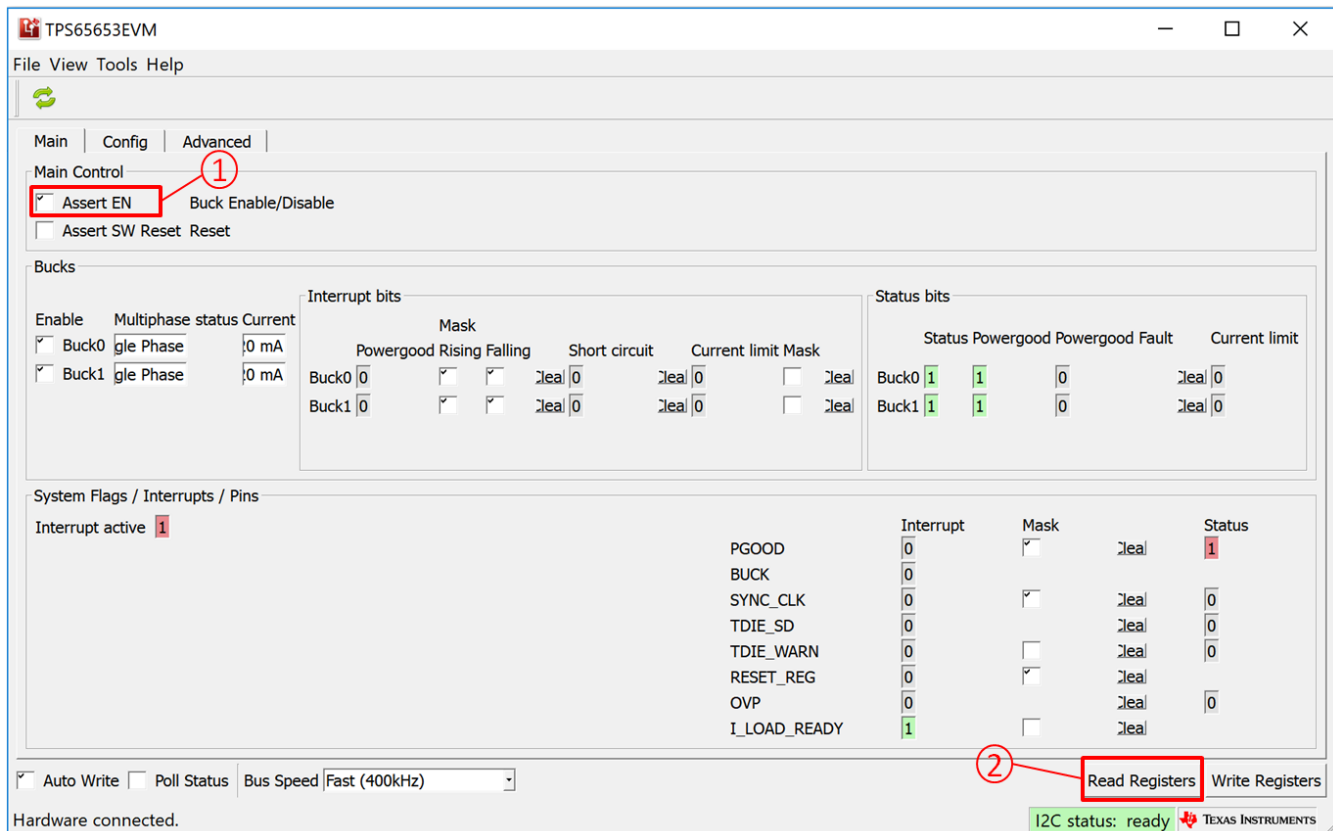

Figure 3. Evaluation Software GUI Showing Steps Needed to Power up the TPS65653-Q1
1. Click on Assert EN check box. See marking 1 in Figure 3.
2. Click on Read Registers button (marking 2 in Figure 3). User should see “I2C Status: ready” message on the green background next to the Read Registers button.